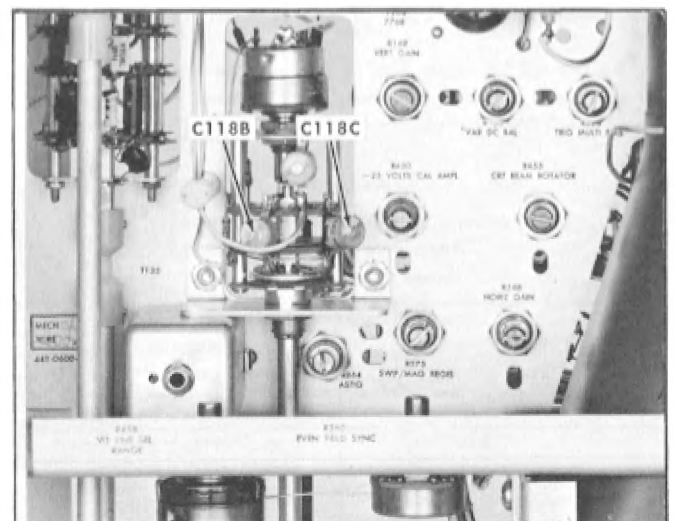

Fig. 6-35. Location of C118B and C118C adjustments.
27. Adjust Vertical-Amplifier 0.2 Flat-Frequency Response (C118B) ①
- e. Adjust C118B (see Fig. 6-35) to obtain flat-frequency response from 500 kHz to 5 MHz within +0%, -1%.
28. Adjust Vertical-Amplifier 0.5 Flat-Frequency Response (C118C) ①
- e. Adjust C118C (see Fig. 6-35) to obtain flat-frequency response from 500 kHz to 5 MHz within +0%, -1%.
29. Adjust Common Mode Rejection (SN 930-up) ①